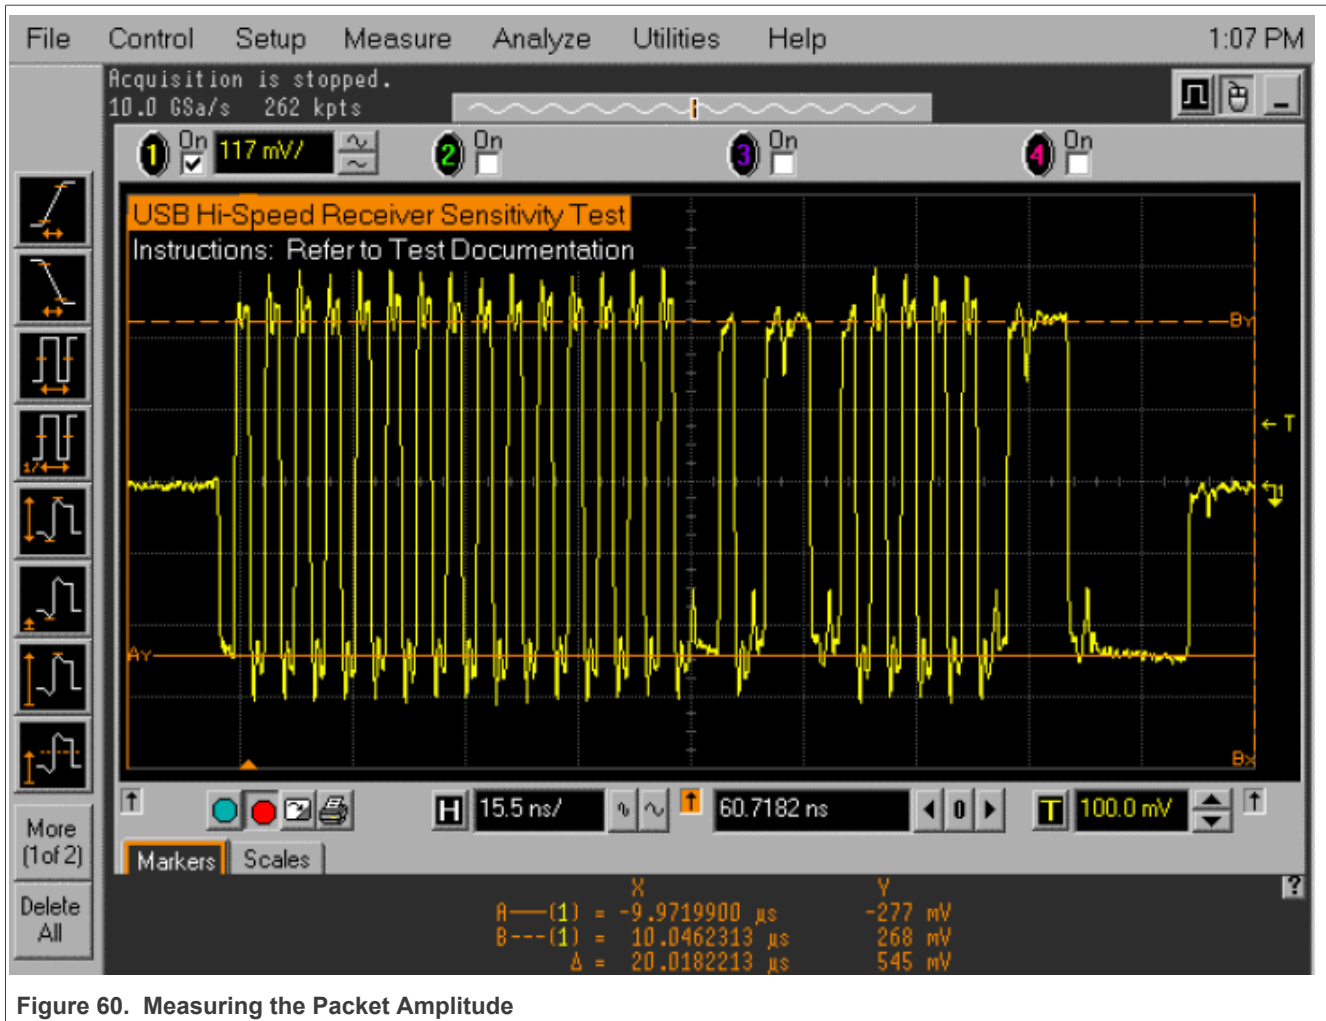

Figure 60. Measuring the Packet Amplitude
12. Verify that all packets from the data generator are **NAK** 'd by the port under test as shown in Figure 60 below.